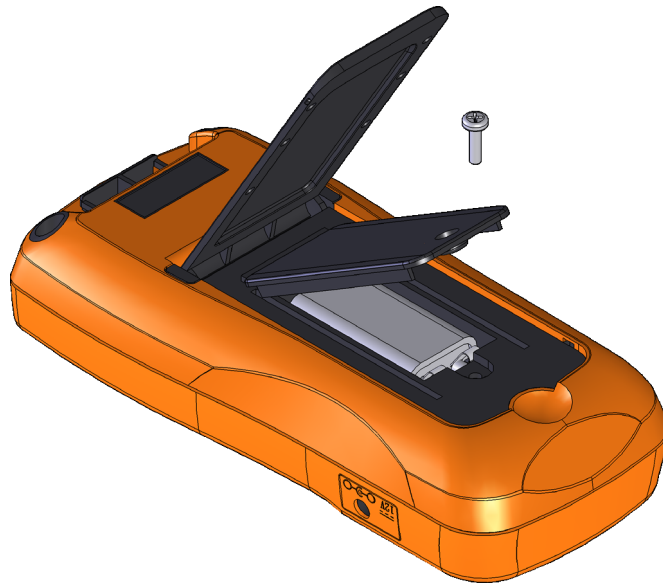

Figure 1-1 Installing the batteries
- 1 Open the battery cover.** Lift the tilt stand. Loosen the screw with a suitable Phillips screwdriver and remove the battery cover as shown in Figure 1-1.